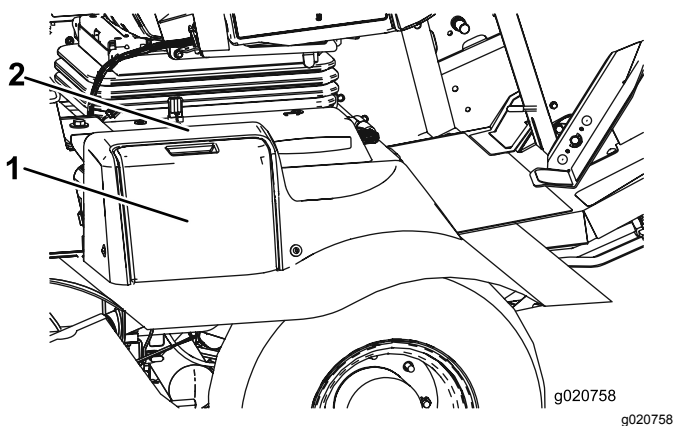

Figure 80
1. Open the battery cover (Figure 80). on the side of the shroud.
**Note:** Press down on the flat surface above the battery cover to ease cover removal (Figure 80).